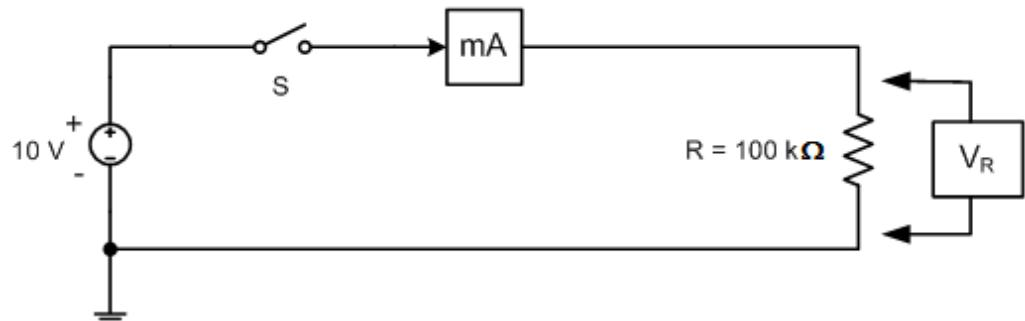

Figure 4.3
Step 2: Connect the circuit shown in Figure 4.3 on the protoboard. Measure the voltage, V_R across the resistor and the loop current, I_1 .